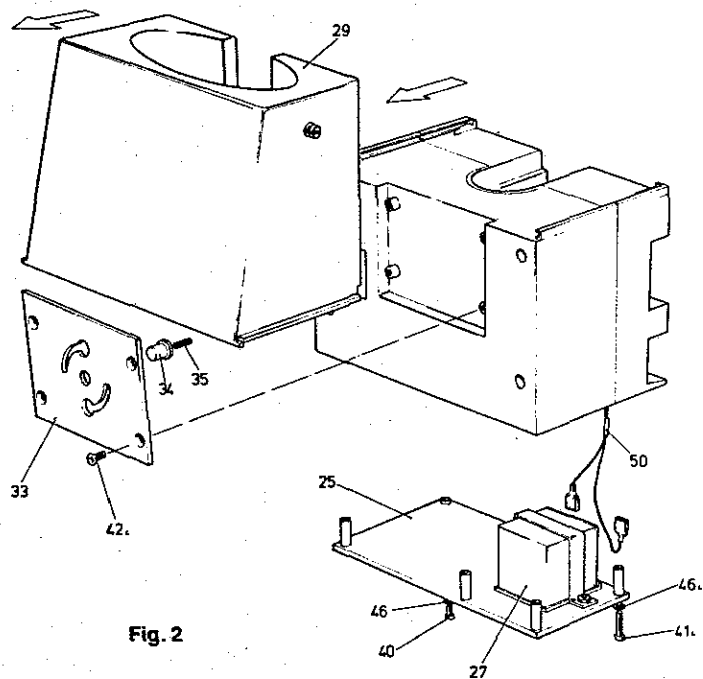

Fig. 2
Refer to Figure 2. Stand the pump on a table with the back facing you. Remove four screws (item 424) to remove the clamp plate (item 33). The spring holder and spring (items 34, 35) are held in place by the clamp plate (item 33). Do not lose these two items when removing the clamp plate.